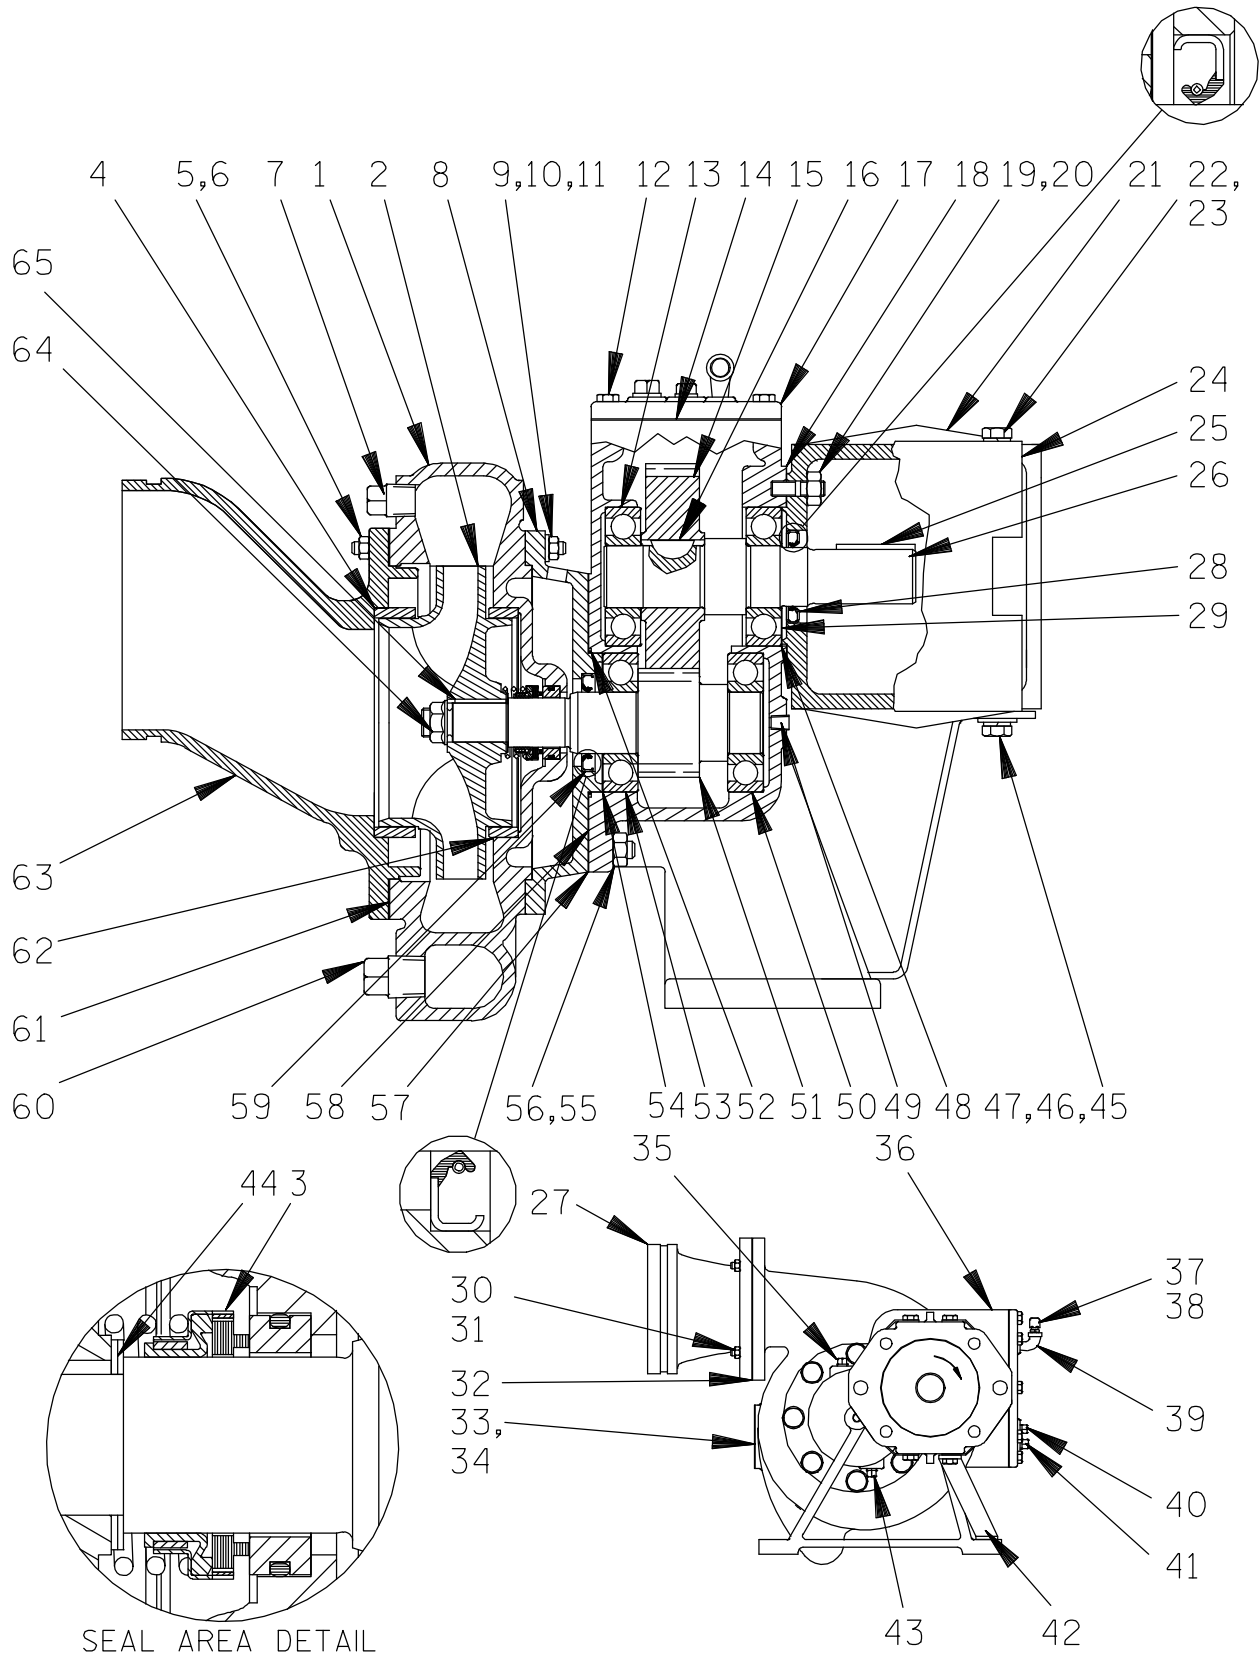

Figure 1. Pump Model 66C3-GE (HYD)
This pump requires little service due to its rugged, minimum-maintenance design. However, if it becomes necessary to inspect or replace the wearing parts, follow these instructions which are keyed to the sectional view (see Figure 1) and the accompanying parts list.
Position the oil seal (59) in the adaptor bore with the lip positioned as shown in Figure 1. Press the oil seal into the bore until fully seated against the bore shoulder.